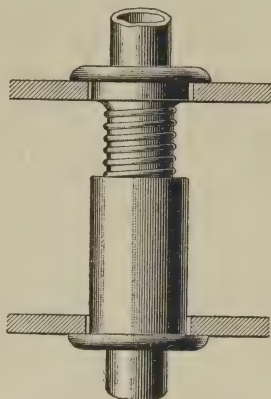

FIG. 66
**95.** The Vasburg adjustable sleeve, shown in Fig. 66, has a thread that allows the length to be adjusted and